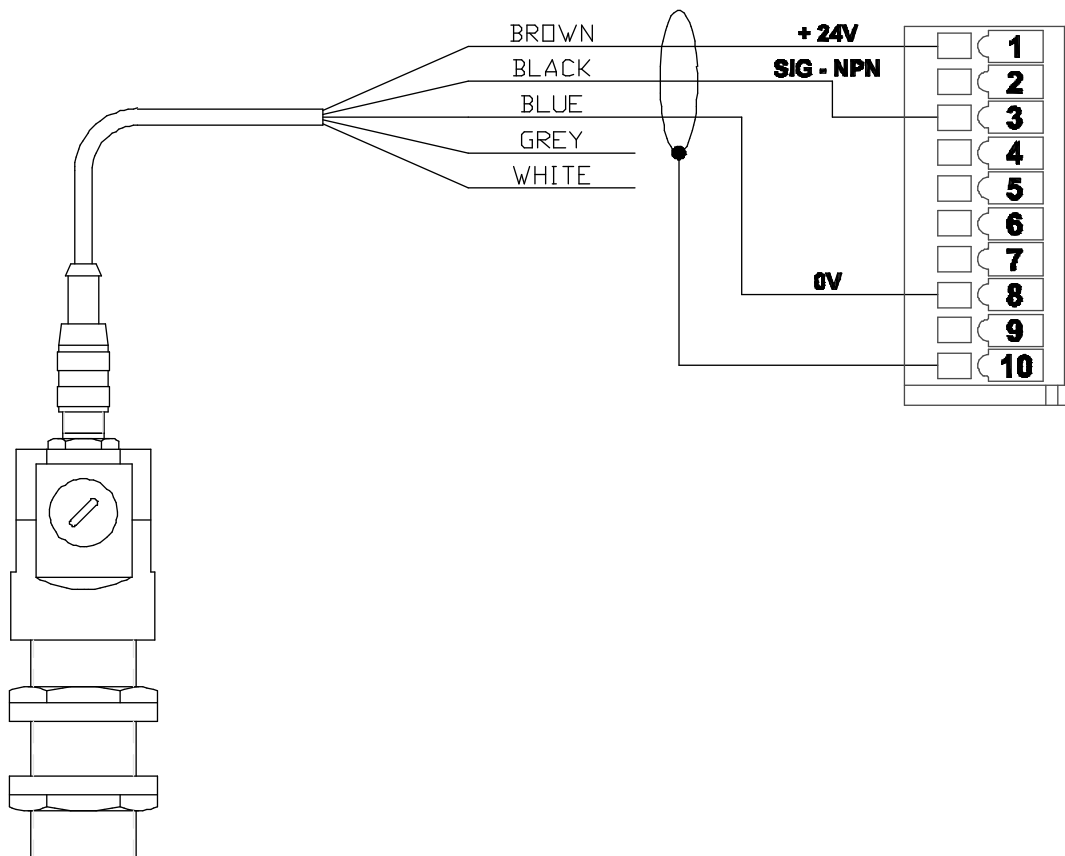
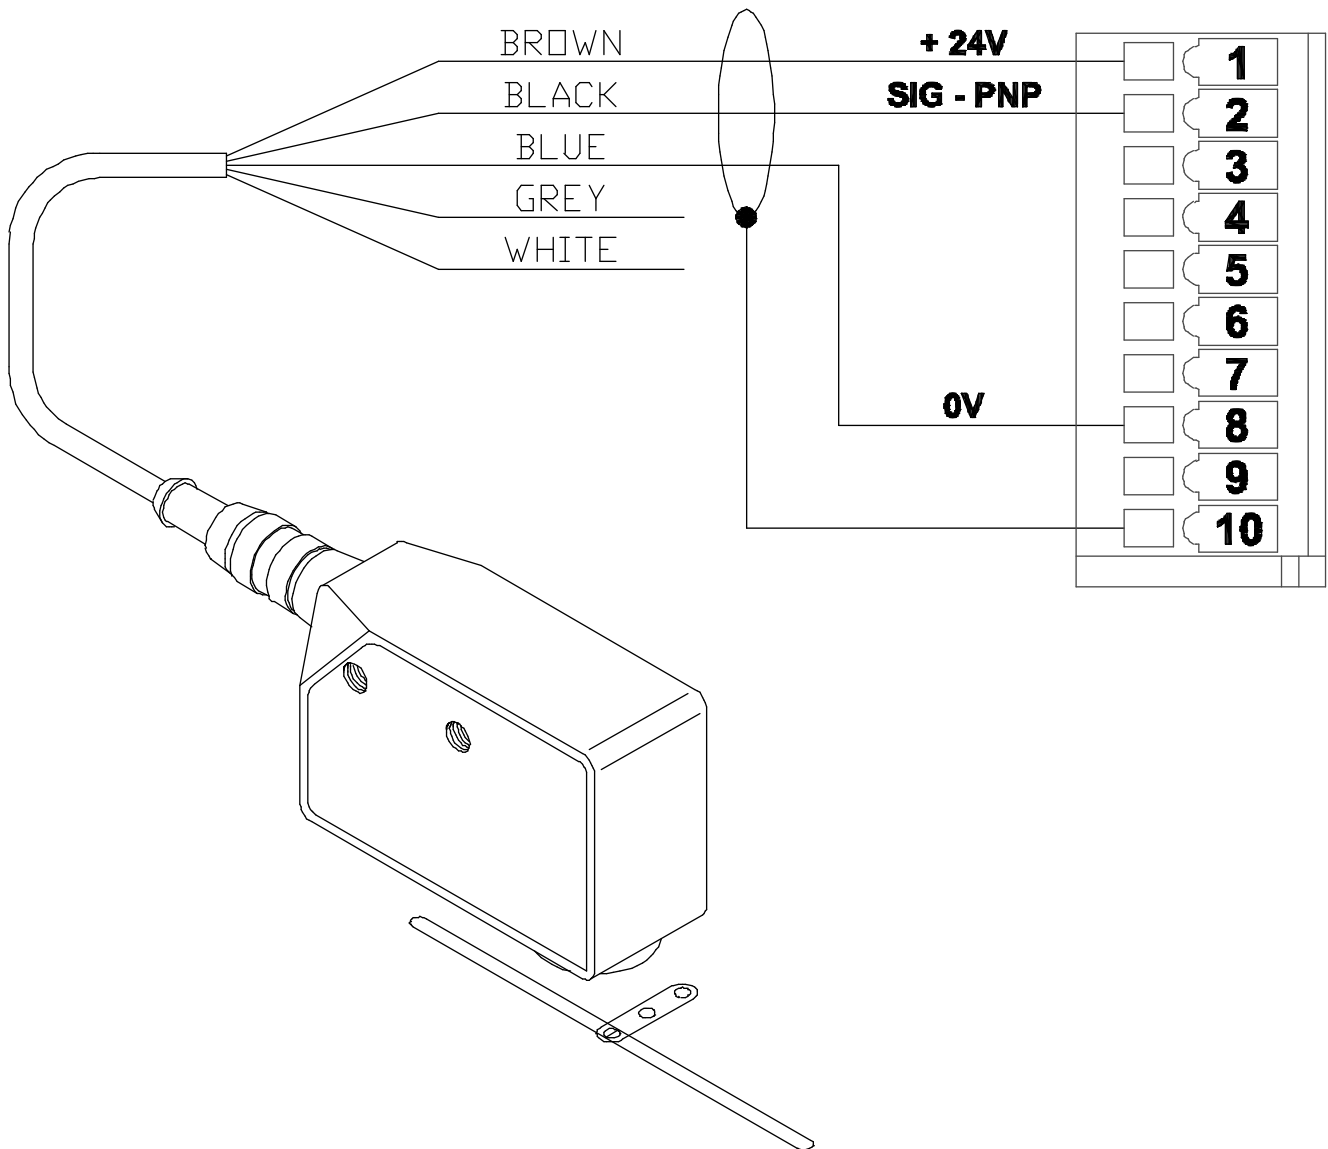

Figure 5-36. "Turck" NPN 30mm Digital-Capacitor Sensor
Figure 5-37. UV-3 PNP Sensor
There are different types of digital NPN/PNP sensors. The Turck (Figure 5-36) and UV-3 (Figure 5-37) sensors are examples of digital NPN/PNP sensors. Consult with your Valco representative for information on other digital PNP sensors.
3. Connect other end of cable to MCP-25/MS control as shown in Figure 5-36 or 5-37.